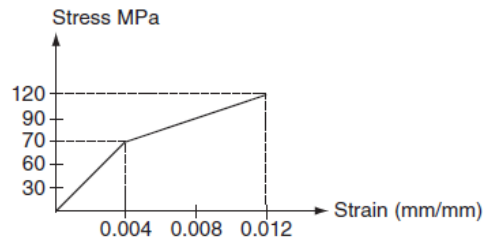

Figure 3 Question 4.
4. The stress–strain behaviour of a material is shown in Figure 3.